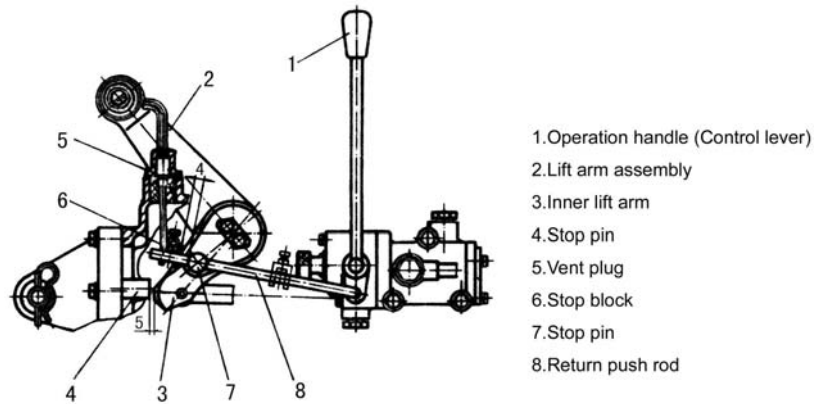

Fig.4-21 Adjustment of lifting position
① Adjustment of the utmost lifting position (Fig.4-21)
Set the control lever (1) at the neutral position which is illustrated in Fig.4-21. Rotate the lift arm assembly (2) upward, until the clearance between the end of inner lift arm (3) and stop pin (4) is not less than 5mm (insert a steel pad through the hole vent plug (5), control this clearance by the pad thickness). Adjust the clearance between stop block (6) and stop pin (7) to be 9-10mm, then fix the stop block on the return push rod (8) with bolt and nut.
② Adjustment of the lowering position